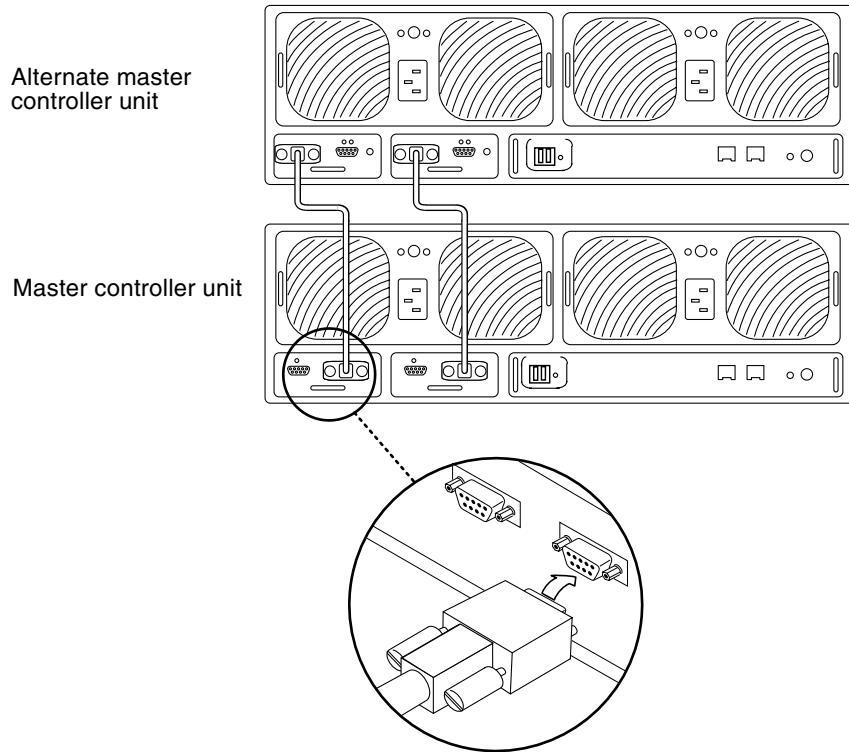

FIGURE 2-9 Connecting the Interconnect Cables
9. Partner group only: Connect the interconnect cables to the interconnect cards as shown in FIGURE 2-9.